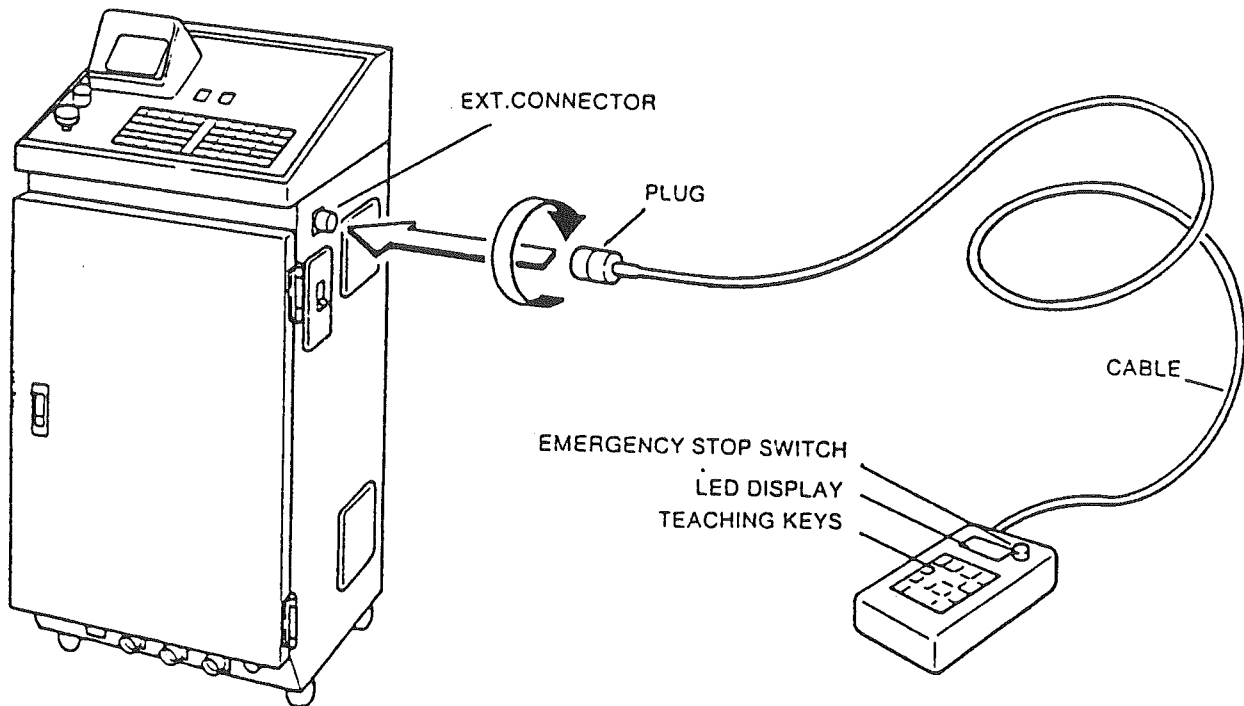

FIG. 8-1 Teach Pendant
FIG. 8-1 shows the external view and cable connection of the teach pendant. Refer to 4-3 in Chapter 4 "OPERATION" for the key types and layout.
- 1) Be sure to connect the plug to the EXT connector on the upper right side of the controller. See FIG. 8-1.